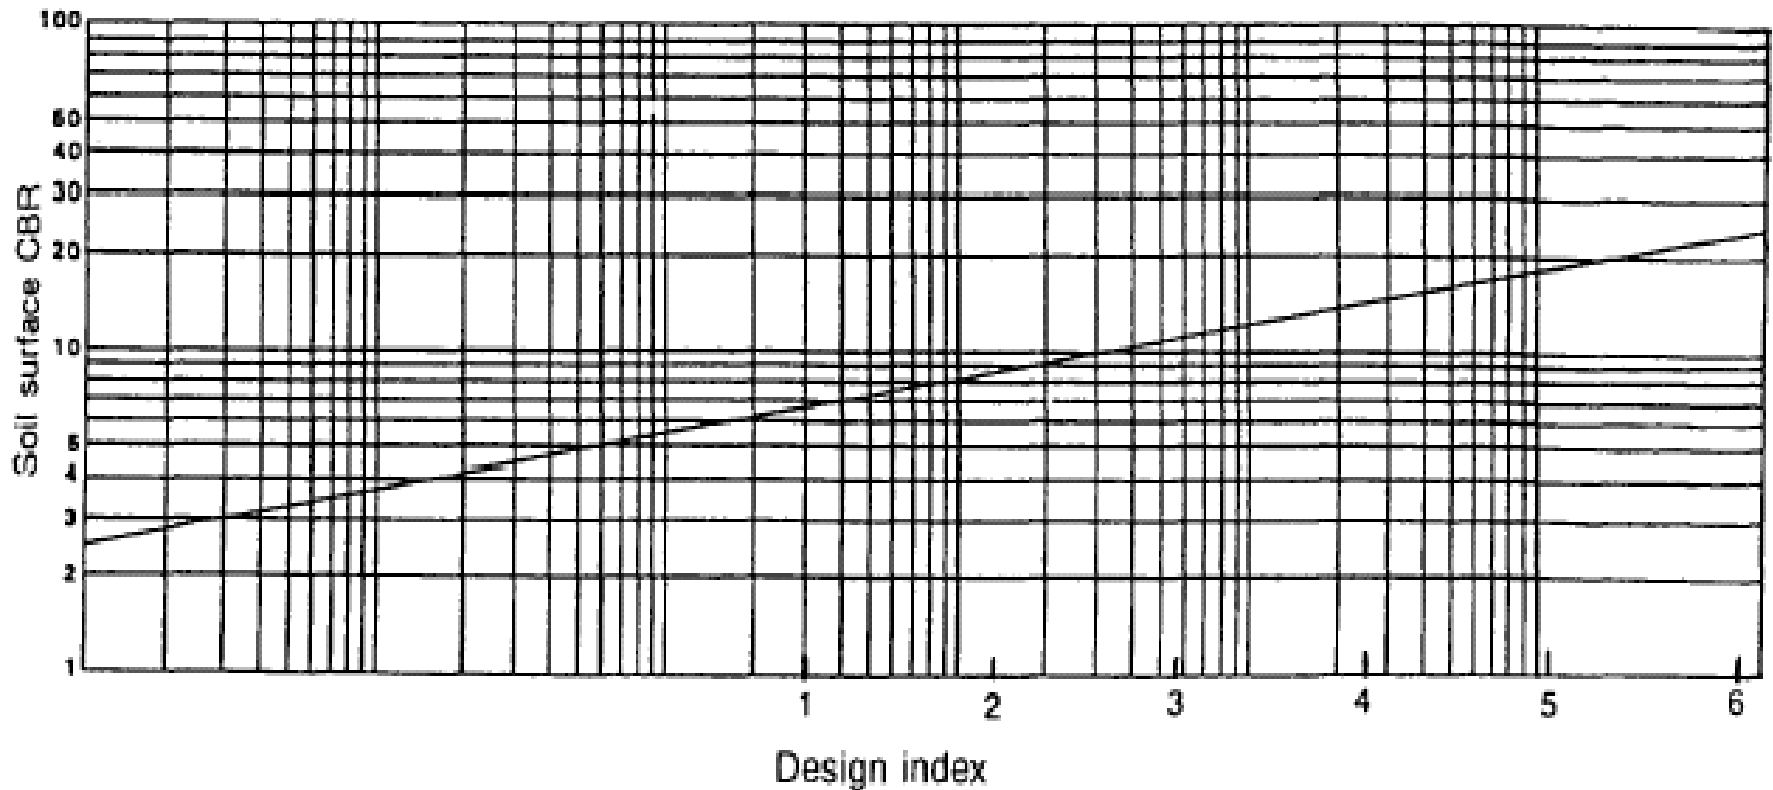

Figure 9-50. Unsurfaced-soil strength requirements
- (1) Estimate the number of passes of each type of vehicle expected to use a road on a daily basis.
- (2) Select the proper road class based upon the traffic intensity from Table 9-8.
- (3) Determine the traffic category based upon the traffic composition criteria shown in Table 9-9.
- (4) Determine the design index from Table 9-10 or Table 9-12.
- (5) Read the soil-surface strength required to support the design index from Figure 9-50.